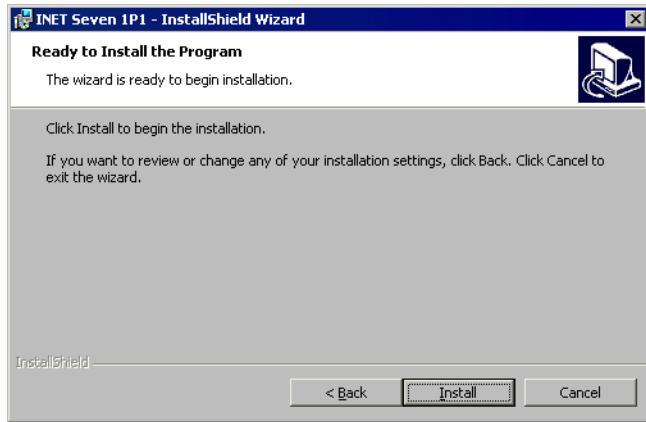

Figure 2-15. Ready to Install TAC I/NET Seven
18. Setup is now ready to install TAC I/NET Seven (see Figure 2-15). Click **Install** to begin the installation.